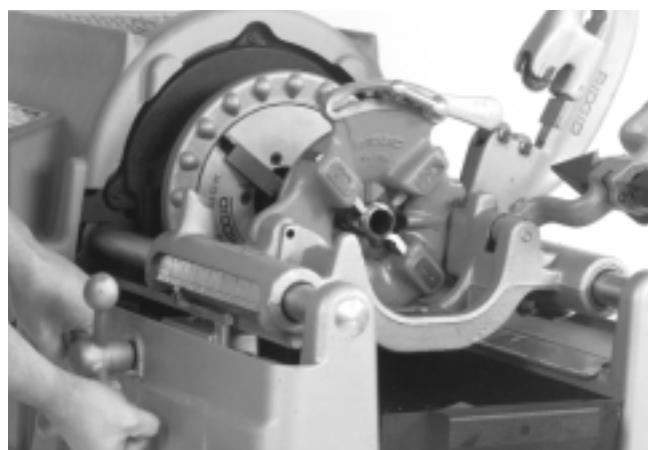

Figure 8 – Threading with 535 Manual Threading Machine
5. Turn carriage handwheel to bring dies against end of pipe. Slight pressure on handwheel will start dies. (*Figure 8*)
1. Depress handle so that camplate rests (*Figure 8 – Model 816/817 Die Head*) against the stop. (As shown).